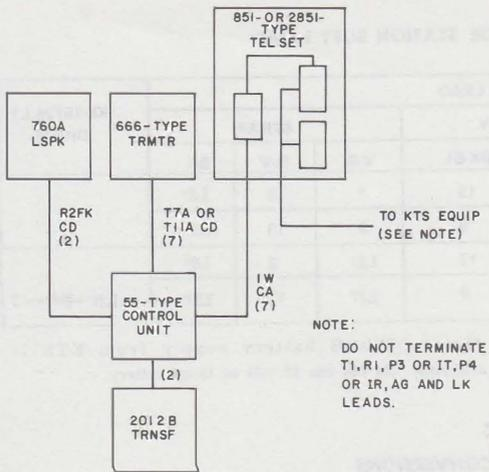

Fig. 21—Block Diagram, Control Unit Located Near Station
**3.12 3-Type Speakerphone MD:** These sets are factory-wired for 3-type speakerphone except that the 851-type telephone set requires the replacement of the 8RA dial with an 8CA dial to provide a second set of off-normal contacts (P3 and P4 leads). When replacing the dial, the adapter brackets must be removed from the 8RA dial and added to the 8CA dial (Fig. 12). With both the rotary and TOUCH-TONE sets, a loudspeaker and transmitter must be installed external to the set and wired to the 55-type control unit. The control unit can be located near the telephone set (Fig. 21) or at the KTS equipment (Fig. 22).